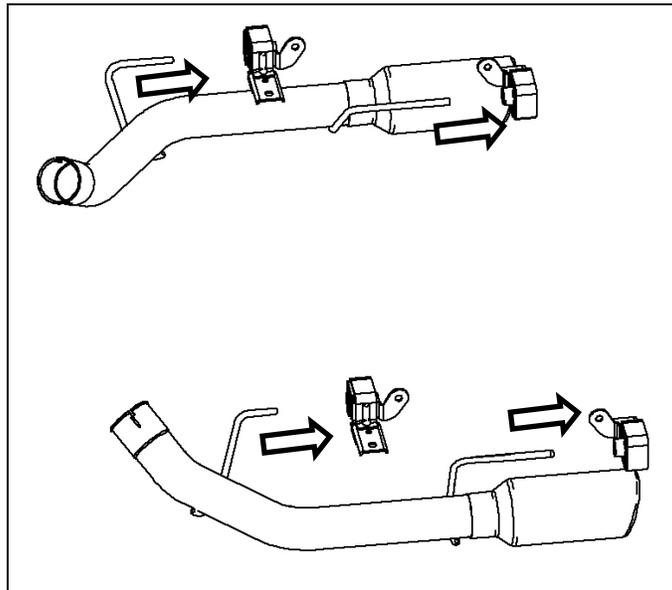

Figure 6
1. Install the two (2) Tailpipe Assemblies (RH #13105230 & LH #13105232) into the stock rubber isolators. Refer to Figure 6.